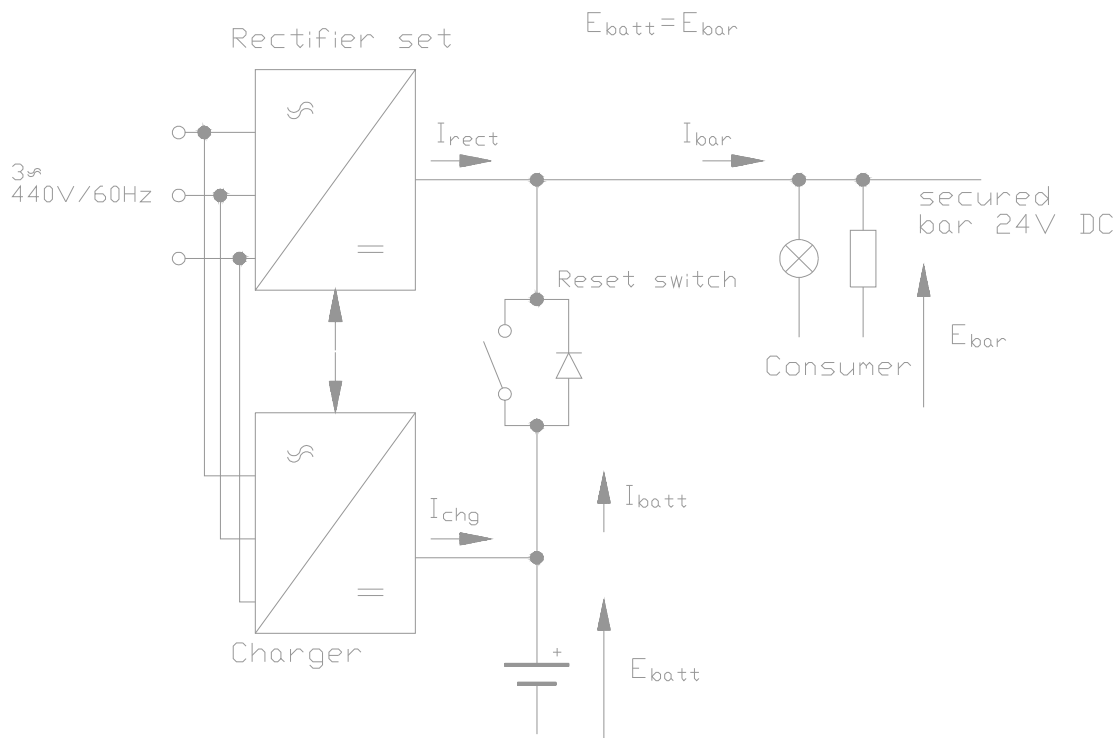

Fig. 2.3 Uninterruptible changeover operation
2.1.3 Uninterruptible changeover operation (Fig.2.3.):